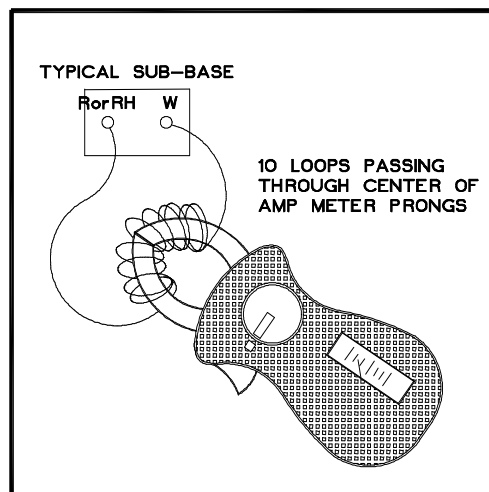

Figure 17: Analog Ammeter w/ Wire Loops to Boost Reading
1. Wrap 10 loops of single strand, insulated, thermostat wire around the prongs of an ammeter, refer to Figure 17. Set the scale to the 1 to 5 or 1 to 6 amp. scale.